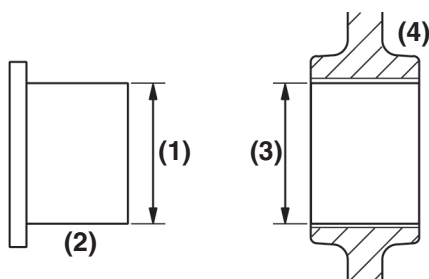

Figure 6-80
1. Measure the outside diameter (**Figure 6-80, (1)**) of the idler gear shaft (**Figure 6-80, (2)**). Record the measurements. *See Idler Gear Shaft and Bushing on page 6-8 for specifications.*
2. Measure the inside diameter (**Figure 6-80, (3)**) of the idler gear bushing (**Figure 6-80, (4)**). Record the measurements. *See Idler Gear Shaft and Bushing on page 6-8 for specifications.*